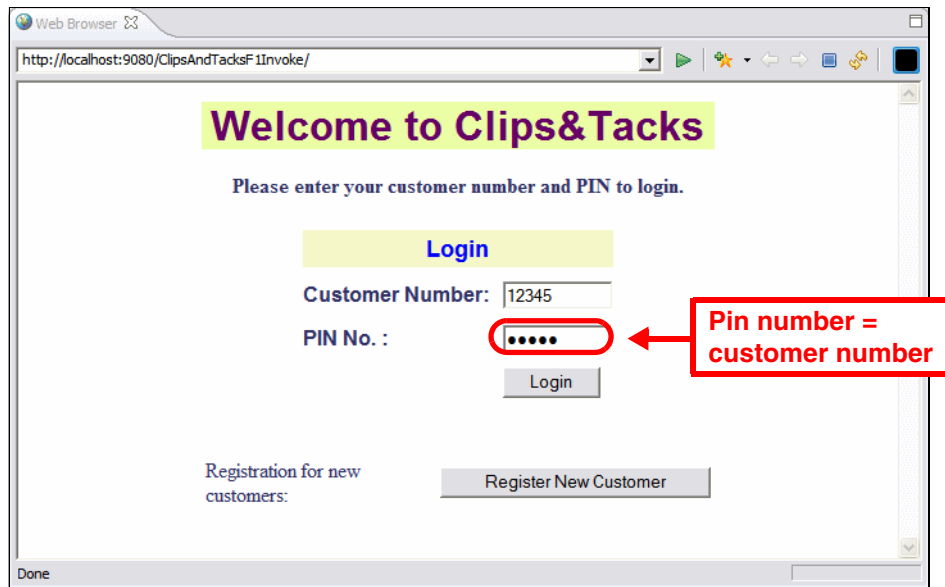

Figure 10-54 ClipsAndTacks: Welcome page
- ▶ The Welcome (login) page is displayed (Figure 10-54).